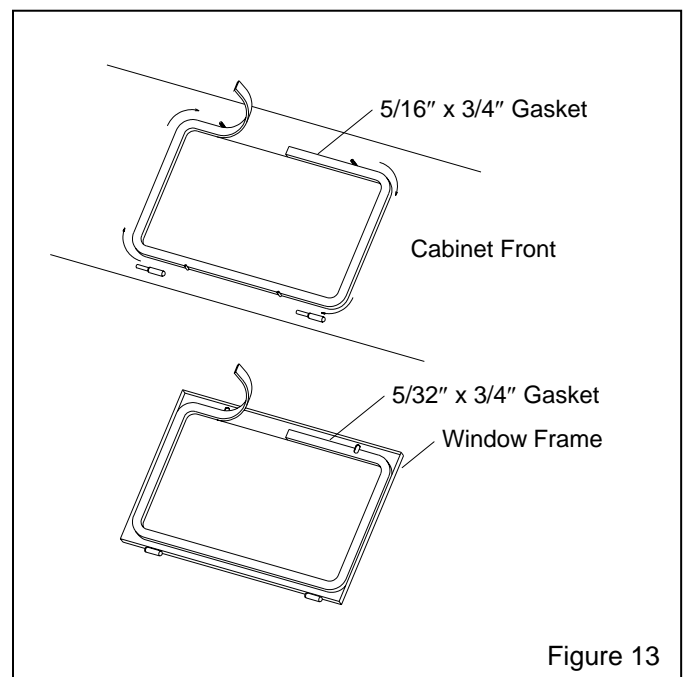

Figure 13
7.4 Window Gasket Replacement, Figure 13
7.4.4 Peel a short section of adhesive backing from the 5/16" thick strip gasket, and adhere the gasket to the center of the top edge of the window opening as shown in Figure 13. Peel additional backing as needed, and work the strip around the radius of each corner, pressing it tightly to bond. Trim the gasket to fit and compress the ends to seal.